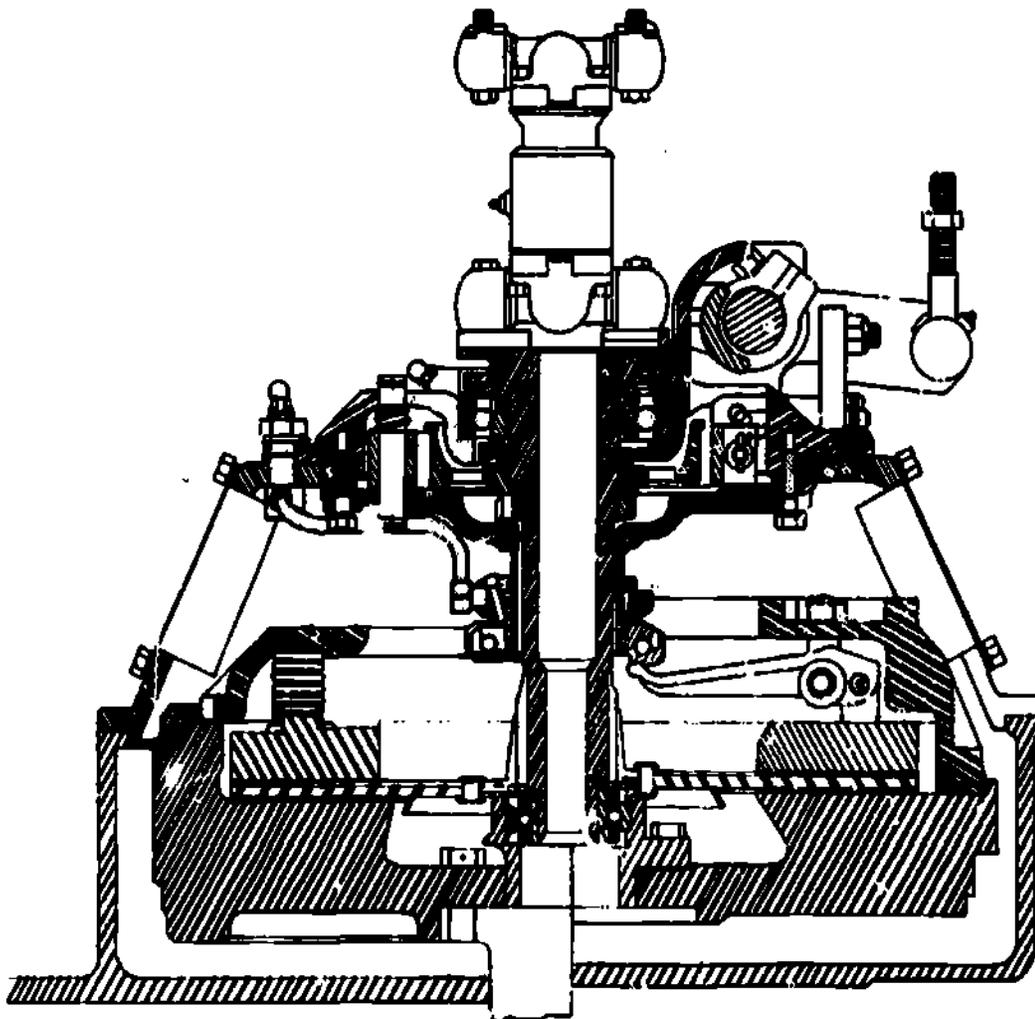

Fig 3-2. Grader clutch assembly.
- (3) Grader. The grader is equipped with a 16-in. single-plate, spring-loaded, Rockford clutch (fig 3-2). It is similar to the Bay City 130-T48 crane-shovel engine clutch. However, the grader clutch control linkage is connected to and activates a clutch brake. The principles of operation are the same: pressure and friction. The clutch is located under the fuel tank between the engine and the upper transmission. The clutch shaft is hollow to permit another shaft to be splined to the engine flywheel and transmit power independent of the engine clutch. The engine clutch controls only the power flow for the propelling power train.